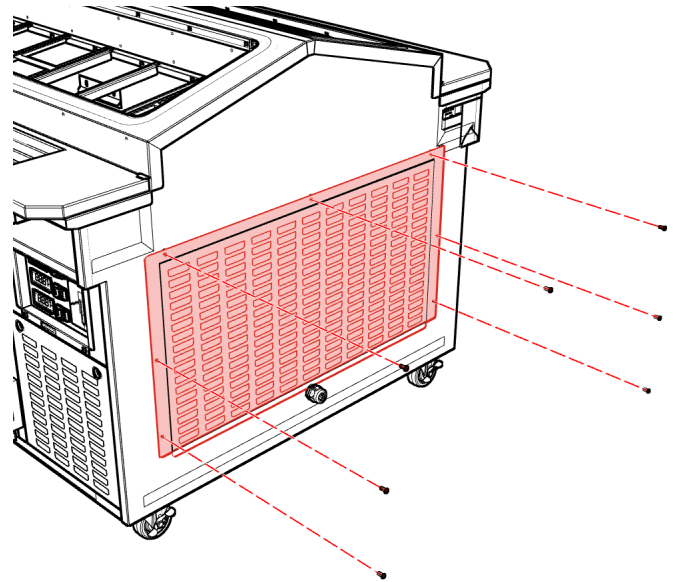

Fig. 29
1. Remove seven (7) M5 × 12 screws fastening side condenser access cover to unit. Drop cover down and away from unit to remove (Fig. 29).